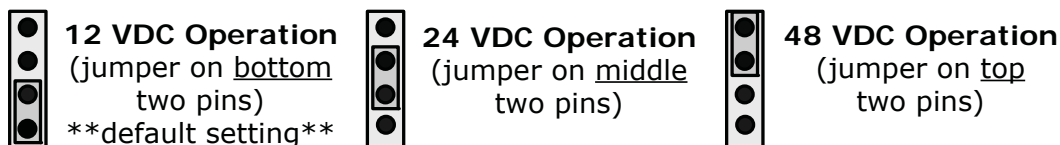

Figure 3-2, DC Voltage Settings
Input DC Voltage Jumper Setting – This setting is determined by connecting two small pins with a small, black plastic box (i.e., jumper). This setting can be configured for 12, 24 or 48 VDC operation (Figure 3-2), which is determined by the nominal DC voltage connected to Terminals #3 and #4 on the AGS.
1. Before connecting the 8-port terminal block into the AGS module, use a multimeter to verify the correct polarity and that the voltage to Terminals #3 (positive) and #4 (negative) is correct according to the position of the input DC voltage jumper (refer to Figure 3-2).